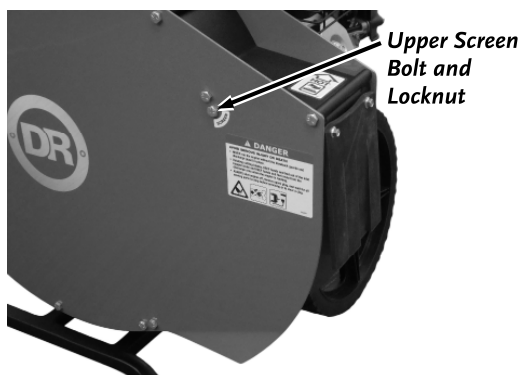

Figure 10
2. Remove the Upper Screen Bolt and Locknut using two 1/2" Wrenches (Figure 10).